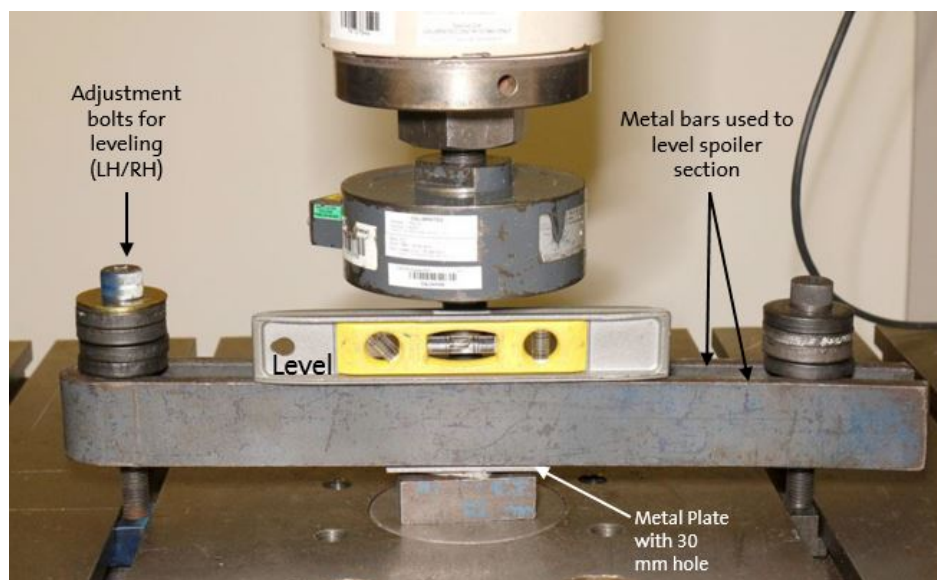

Figure 4: Test Setup
4.3.1.1.1.5 Level the metal plate and spoiler coupon to the table using a fixture or other device. Figure 4 and Figure 5 show leveling the sample using two metal bars mounted to the tensile machine table. These bars are adjustable to achieve a level sample.